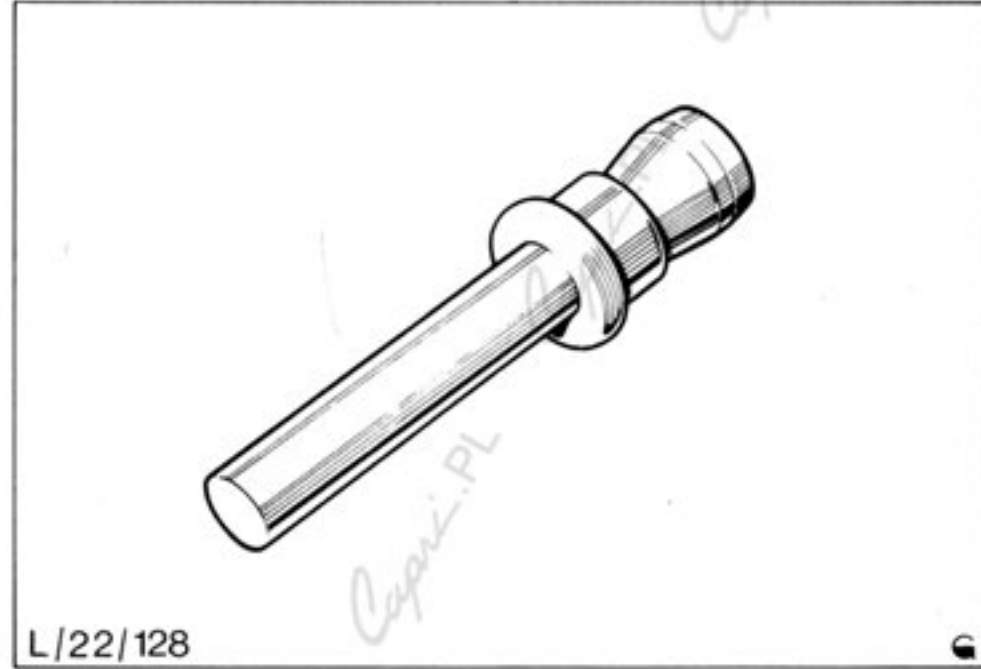

Fig.24. Spark plug centre electrode and cap.
1. Obtain an old plug, break away insulation and cut away centre electrode and screw cap, Fig.24. Discard threaded section of plug.